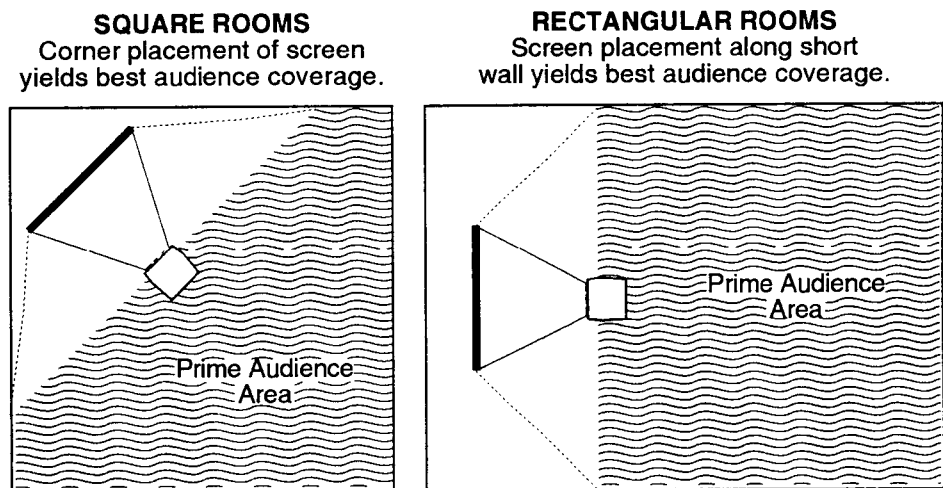

Figure 2-5. Screen Locations for Maximum Audience Coverage
- When laying out your projection room, consider positioning the projector and screen in a manner which will achieve maximum audience coverage and space efficiency. For example, placing the screen along the larger wall in a rectangular room will reduce audience coverage. Figure 2-5 shows two examples of how audience coverage is maximized.